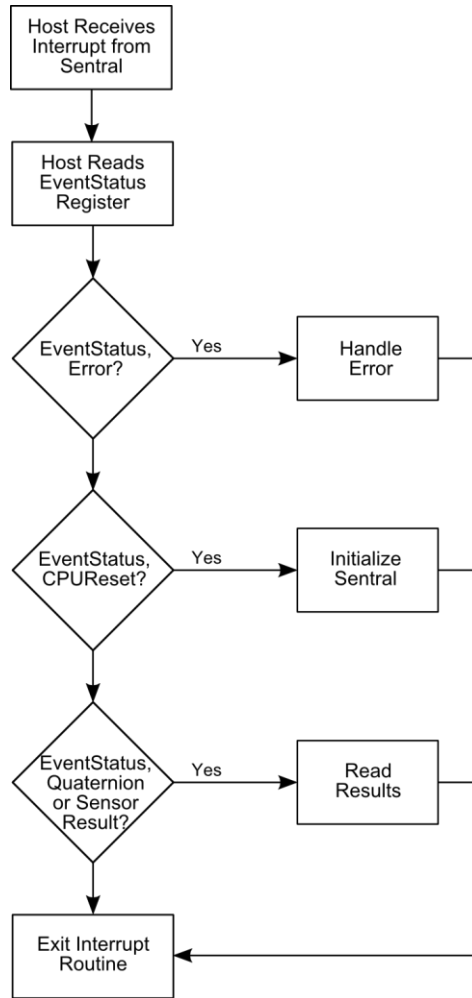

Figure 5-3: SENtral Normal Operation Flow
- d) Interpret and act on the EventStatus register in the priority shown in Figure 5-3. If bit [1], the Error bit, is '1', see Section 5.3.1. If bit [0], the CPUReset bit, is '1', see Section 5.3.2. If bits [2], [3], [4], or [5], the Results bits, are '1', see Section 5.3.1.
**Note that reading the EventStatus register clears it.** It is possible for more than one bit position to be '1' in the EventStatus register, especially if the host does not always read the EventStatus register after receiving an interrupt. Similarly, if multiple bits are set to '1' in the EventStatus register, once the register is read all the bits will be set to '0'. For this reason the EventStatus register should be processed in the priority shown in Figure 5-3, as information will be cleared for events that are not handled.